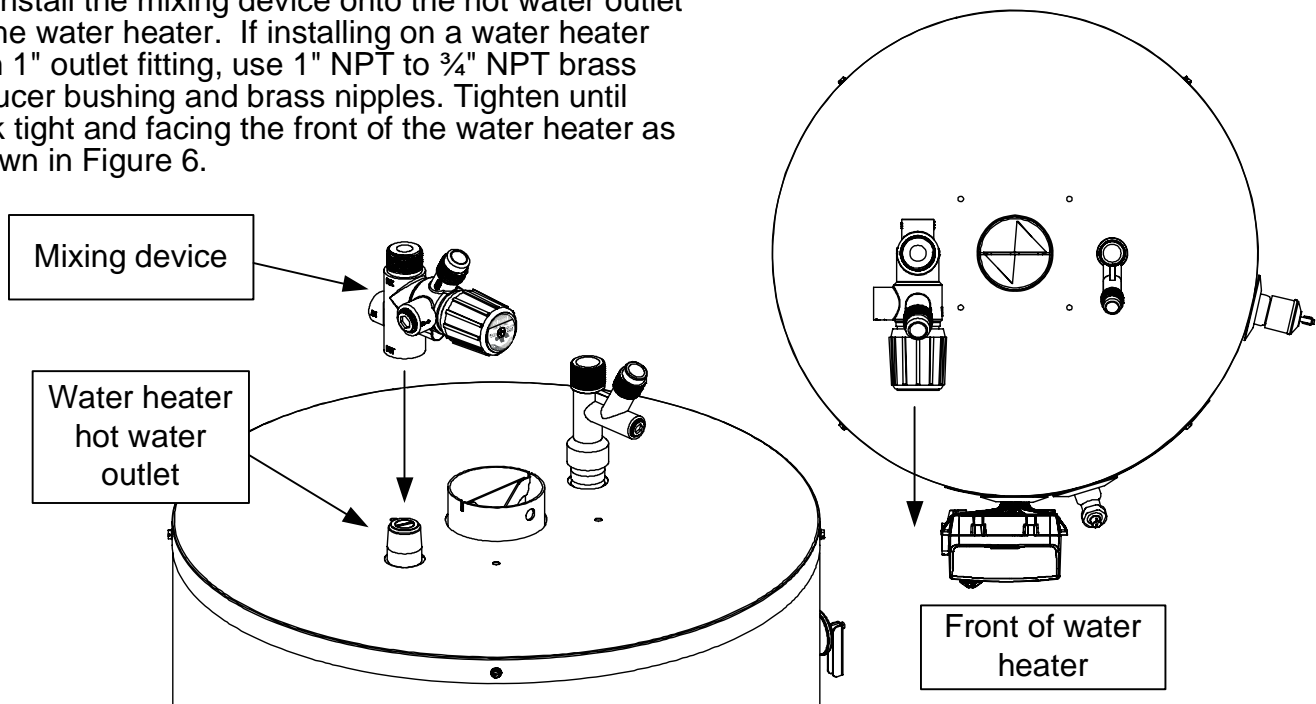

Figure 6
3. Install the mixing device onto the hot water outlet of the water heater. If installing on a water heater with 1" outlet fitting, use 1" NPT to 3/4" NPT brass reducer bushing and brass nipples. Tighten until leak tight and facing the front of the water heater as shown in Figure 6.